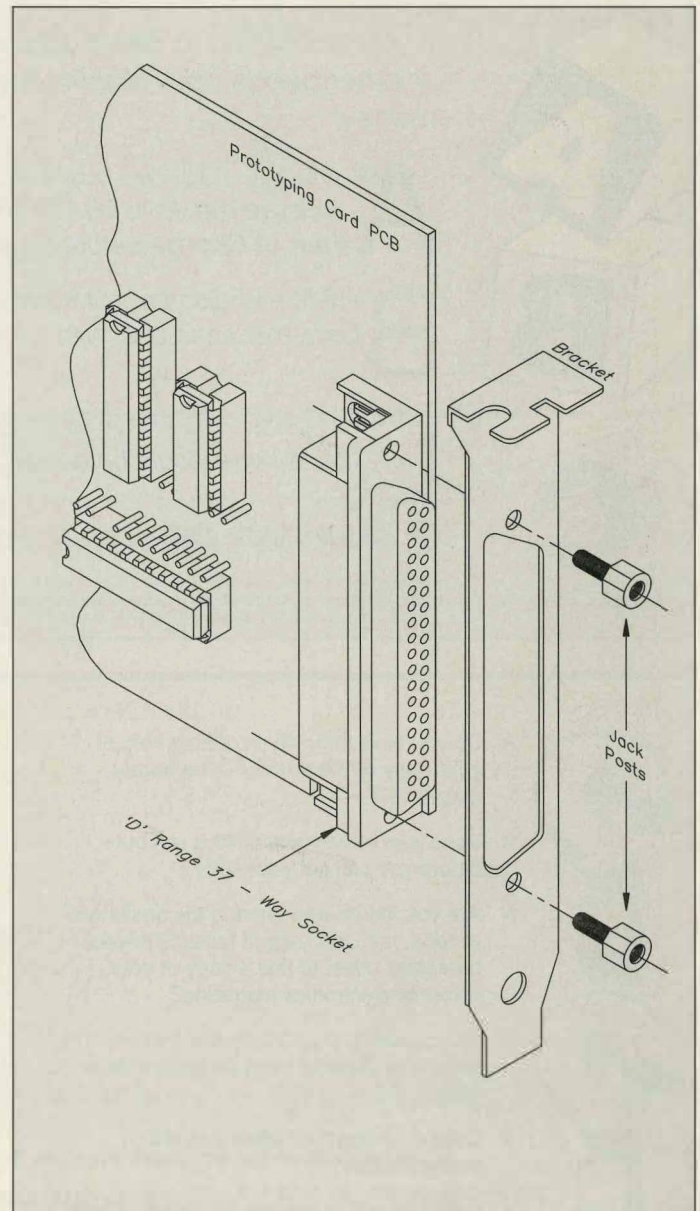

Figure 6. Connector mounting bracket assembly.
4. Locate a suitable empty expansion slot. If using the optional 37-way D-type edge connector and mounting bracket this should be fitted as shown in Figure 6. Remove the metal blanking plate and screw (if fitted). Store the end-plate in a safe place for later replacement, should you wish to remove the Prototyping Card from your computer.
5. Carefully insert the card into the empty slot, pushing it fully home without forcing it. If applicable, use the cover screw removed in (4) above to fix the end-plate to the back of your computer.